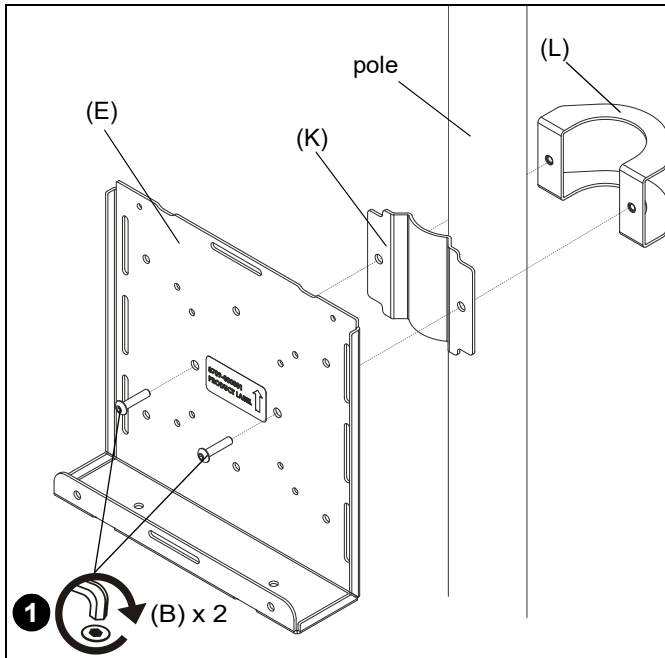

**Figure 4**
4. Tighten two #10-24 x 1/2" button head cap screws (A) when desired height is reached. (See Figure 4)
5. Re-install column cap to column. (See Figure 4)